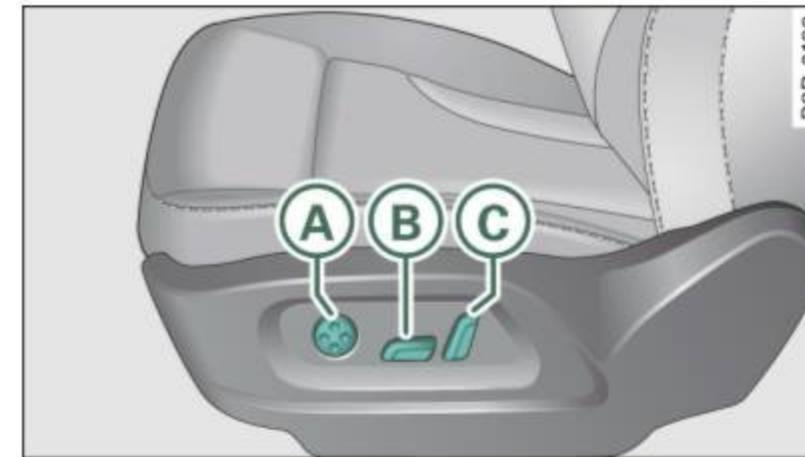

Fig. 69 Front seat: Controls for seat adjustment
- Push the switch  forward or backward ⇒ *page 71, fig. 69.*